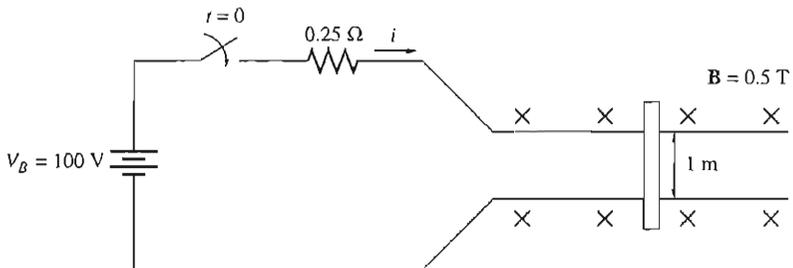

FIGURE P1-15
- 1-21. A linear machine shown in Figure P1-15 has a magnetic flux density of 0.5 T directed into the page, a resistance of 0.25Ω , a bar length $l = 1.0 \text{ m}$, and a battery voltage of 100 V.